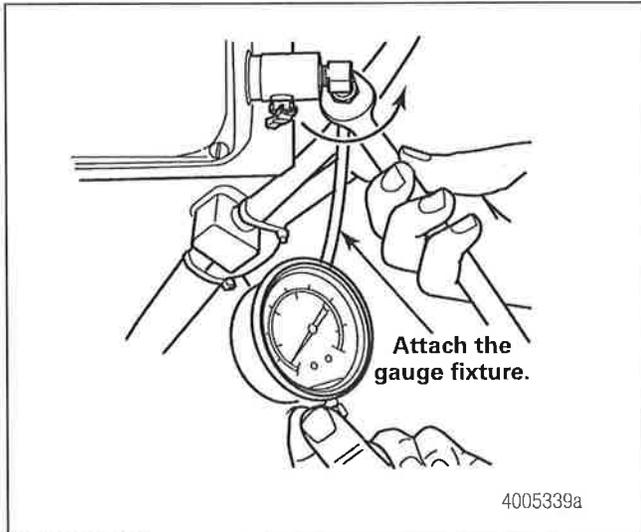
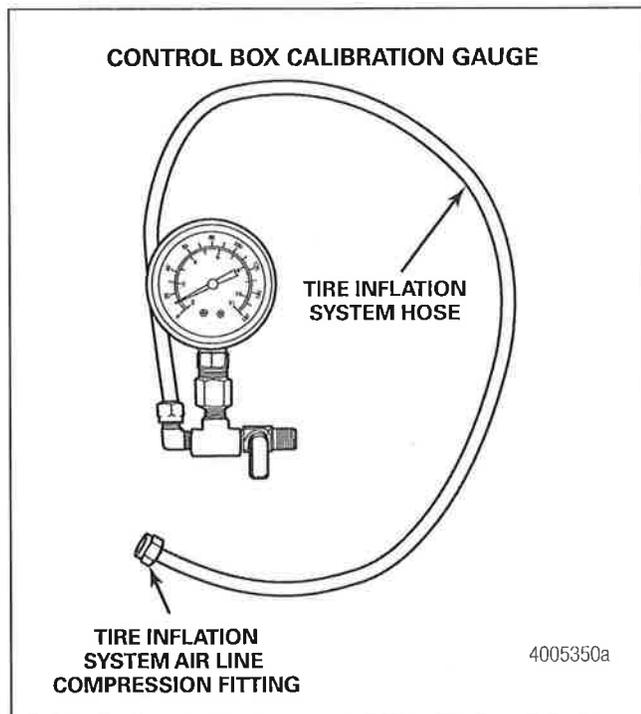

Figure 3.13
Figure 3.14
- Attach an air pressure test gauge fixture to the outlet port of the control box. Figure 3.13. Refer to Section 8 for information on building an air pressure test gauge fixture. Figure 3.14.